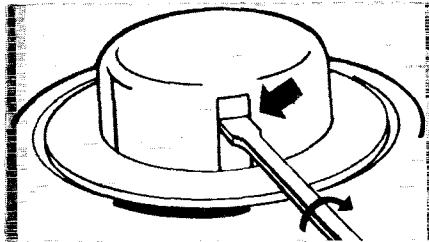

Figure 26
2. Insert a medium flat screw driver in one of the two window slots in the spool hub and twist. The spool will snap off. (Fig. 26). NOTE: Use as wide a screw driver as will fit in the slot so as not to damage the cap.